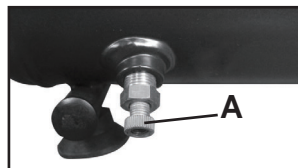

FIGURE 4
**DRAIN VALVE (A) FIG. 4.** The drain valve is located at the base of the air tank and is used to drain condensation from the tank to prevent corrosion. Drain tank at the end of each use.
- C. Fully open the drain valve (A) Fig. 4, by turning it counterclockwise, to prevent air pressure build-up in the tank.
10. Drain water from air tank. Turn drain valve (A) Fig. 4, counterclockwise to open.
5. Drain water from air tank. Turn drain valve (A) Fig. 4, counterclockwise, to open.